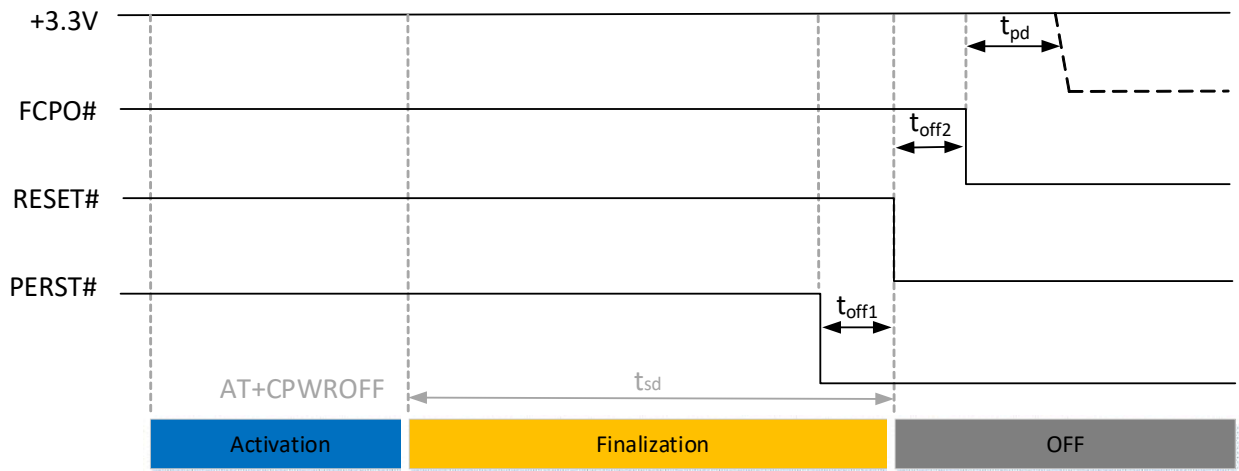

Figure 4. Shutdown timing control
The FCPO# (FULL_CARD_POWER_OFF#) pin needs a voltage transition from a logic low state to a logic high state for booting up. EC (Embedded Chipset) controls the module start-up. The recommended design is using a default PD port to control FCPO#. It is advised to reserve a 100K (NC) pull-down resistor on EC side. The circuit design is shown in Figure 4: